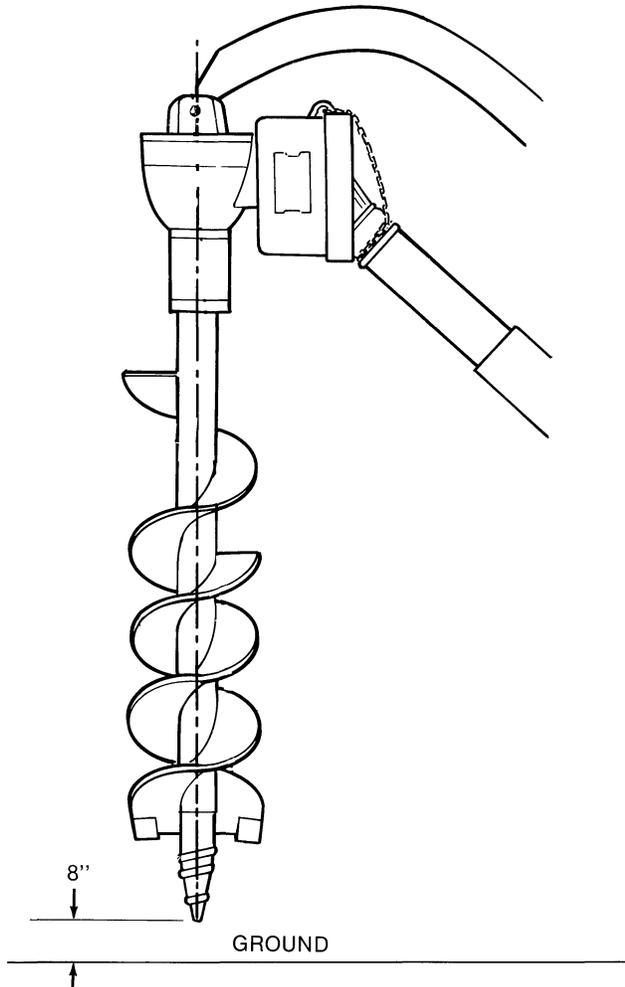

Figure 11
IMPORTANT: To minimize the chance of damage to the tractor three-point connections, and to the post hole digger, choose the highest tractor top link point which will give the auger tip approximately 8" of ground clearance in the transport position, Figure 11. Place the hydraulic system in position control.
4. Use the three-point links to raise the auger to the fully raised (transport) position, then check the clearance between the auger tip and the ground. The tip should clear the ground by approximately 8" as shown in Figure 11. If adequate ground clearance can not be attained using this setting, move the digger boom link to the next lower hole for the top link point and check the clearances again. Repeat until a suitable top link point is selected.